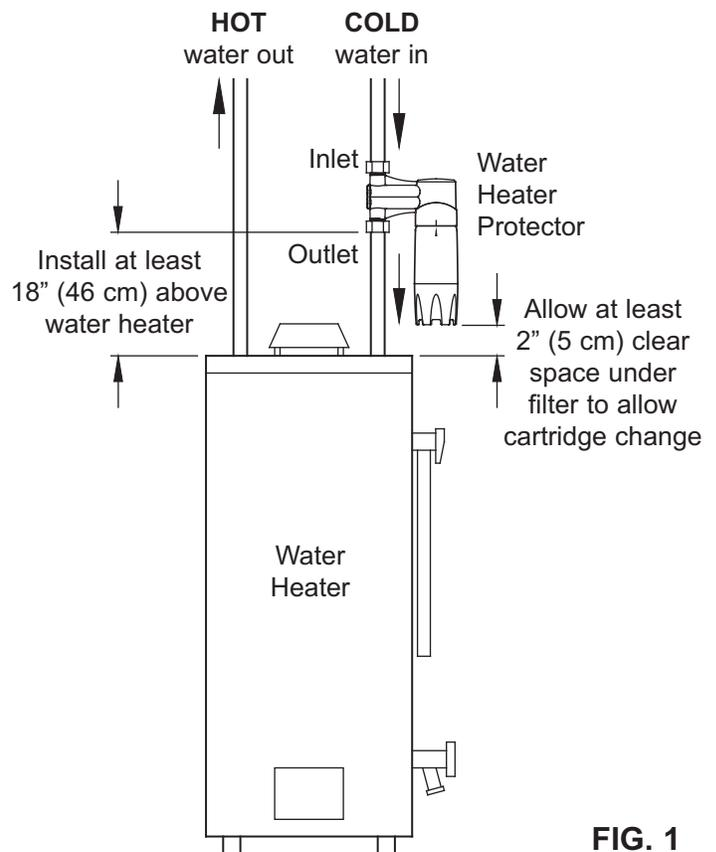

FIG. 1
- Install the Water Heater Protector with the inlet and outlet ports oriented as shown in Figure 1. Make sure not to reverse connections.